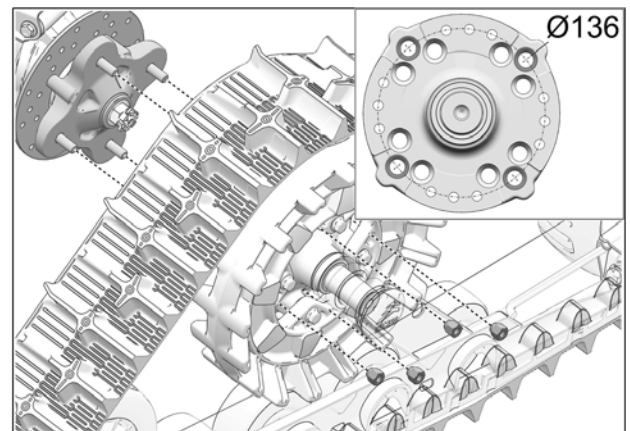

Fig. 21
- Secure undercarriage to front hub using the vehicle's own lug nuts. Use bolt circle Ø136 mm. See Fig. 21